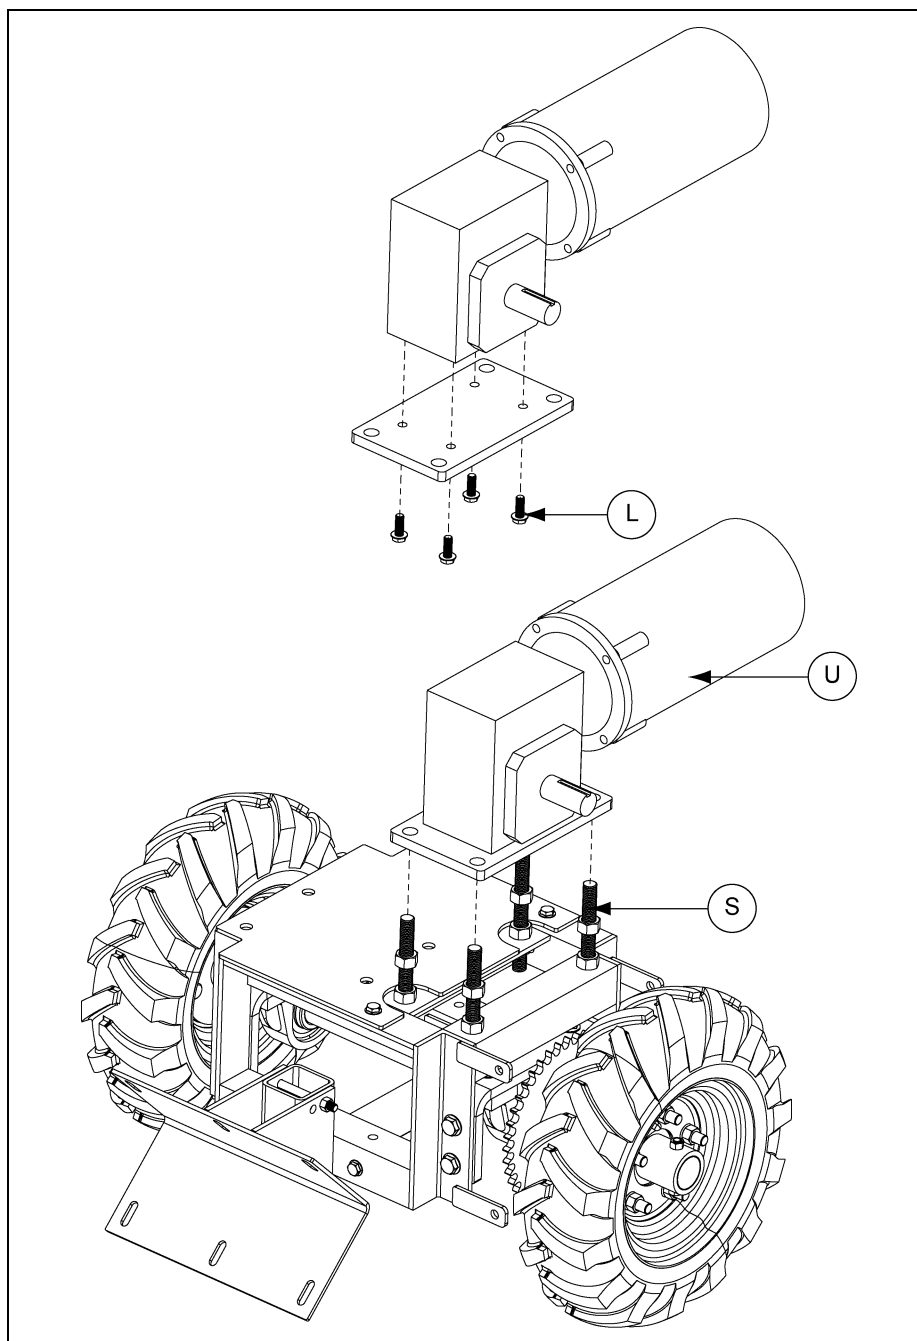

Figure 4V
13. Mount the drive assembly to the gearbox plate using four (4) 3/8"-16 x 1" flange bolts (L). Place the gearbox plate and motor assembly (U) over the threaded rods (S), resting on the hex nuts. (See Figure 4V.)